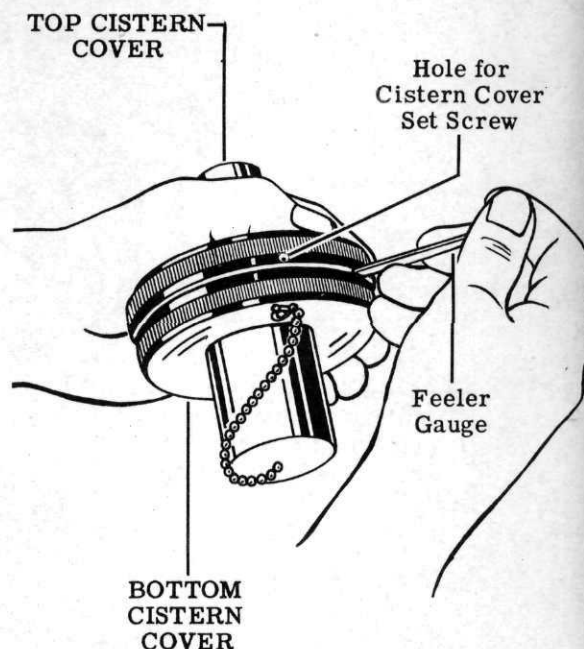

Figure 24
3. Using a suitable feeler gauge, check the clearance between the top and bottom cistern covers, as shown in Fig. 24. The clearance should be approximately $1/32$ inch. If the clearance is less than $1/32$ inch, another cistern cushioning washer may be assembled in the top cistern cover. If this would provide too great a clearance, paper washers of the required thickness may be assembled.
4. Drill a hole in the position shown in Fig. 24, through the top and bottom cistern covers, using a No. 50 (0.070 inch diameter) drill. Tap the hole for a No. 2-56 thread. Then countersink the hole in the top cover.